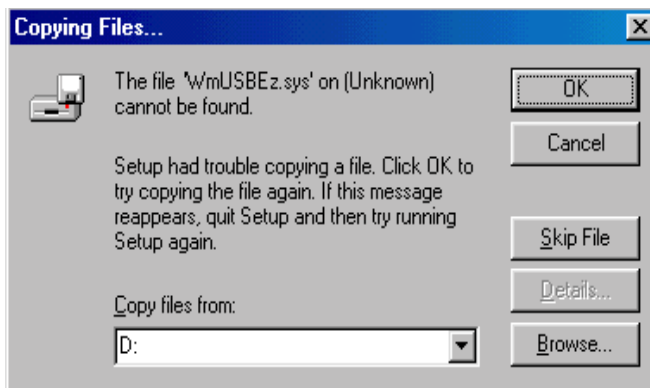

Figure 1-8. Windows 98 – Copying .SYS File
- Click **OK**. The **Copying Files** dialog box (Figure 1-8) appears.